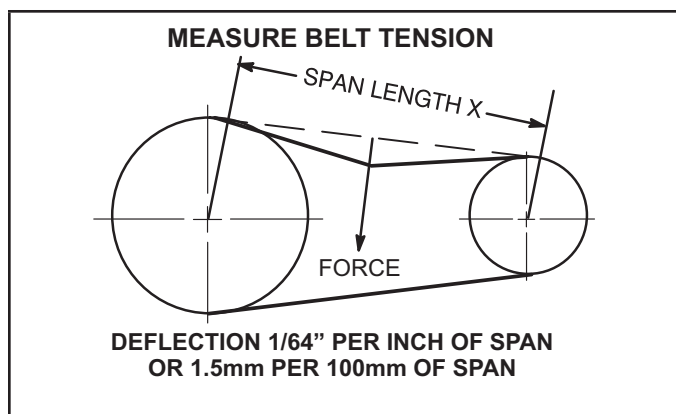

FIGURE 13
- 1 - Measure span length X. See FIGURE 13.
- 2 - Apply perpendicular force to center of span (X) with enough pressure to deflect belt 1/64" for every inch of span length or 1.5mm per 100mm of span length. Example: Deflection distance of a 40" span would be 40/64" or 5/8".